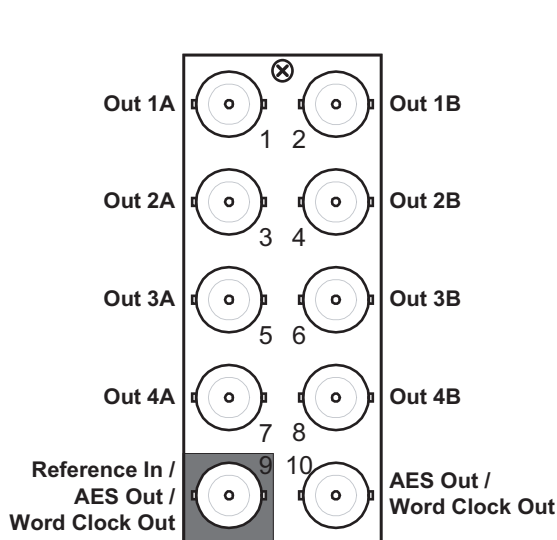

Figure 2.2 Cable Connections for the 8310AR-030 and 8320AR-030 Rear Modules
Each **8310AR-030** rear module occupies one slot and accommodates one card. This rear module provides eight video outputs. Depending on your configuration, there can be a reference input or an AES output on BNC 9, and an AES output or a Word Clock output on BNC 10. (**Figure 2.2**)
- 8320AR-030** Full Rear Module — Each rear module occupies two slots and accommodates one card. This rear module provides eight video outputs. Depending on your configuration, there can be a reference input or an AES output on BNC 9, and an AES output or a Word Clock output on BNC 10. (**Figure 2.2**)